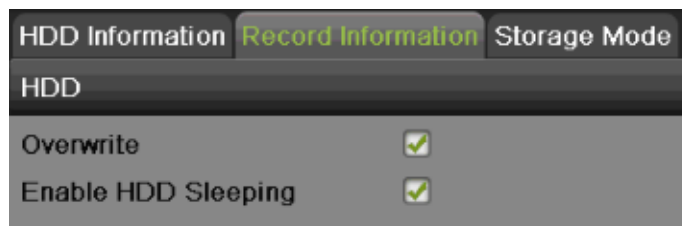

Figure 158 Record Information Menu
2. Select the Record Information tab, as shown in Figure 158.